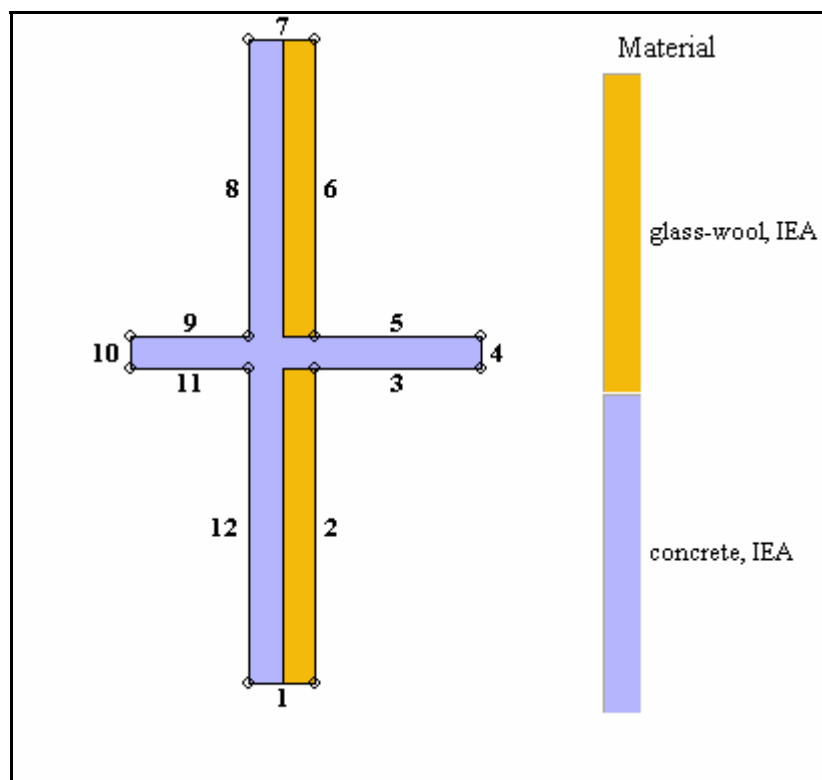
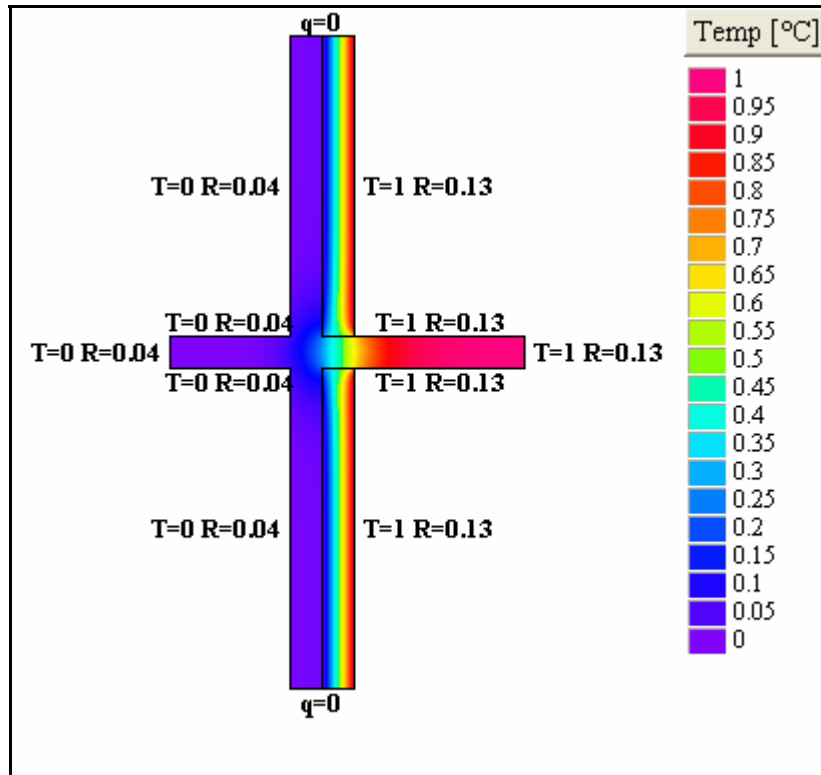

Figure 1: Insulation broken by a concrete slab.
Figure 2. Boundary conditions and calculated temperatures.
2. If the cut-off planes are parallel, the undisturbed (one-dimensional) U-value at the ends must be the same, see e.g. Figure 1 below.
Figure 1 shows a wall of insulation broken by a concrete slab. The internal boundaries are labeled 2-6, and the external ones 8-12. The cut-off planes (1 and 7) are parallel and have the same U-value. Figure 2 shows the boundary conditions and calculated temperatures.